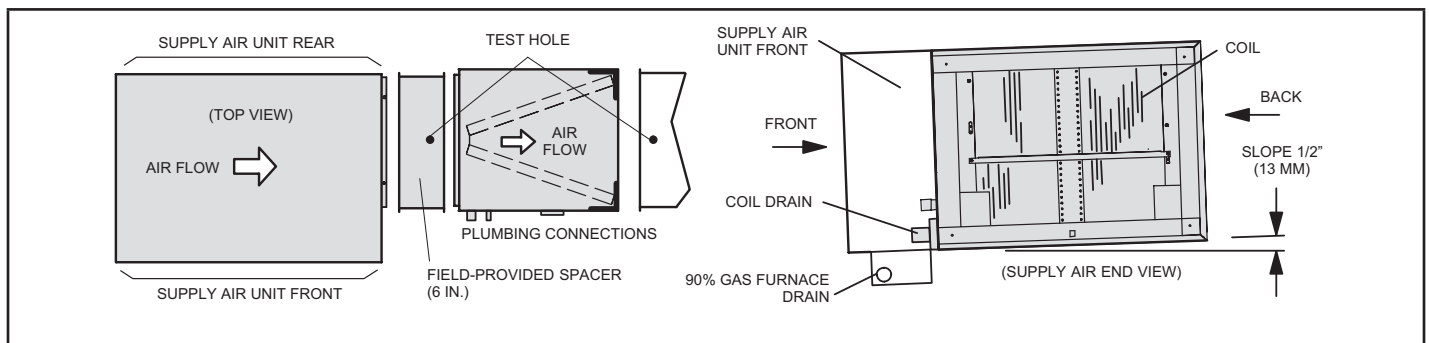

FIGURE 5. Right-Hand Air Discharge with Spacer
- 2 - **Right-Hand Air Discharge with Field-Provided Spacer** - The coil must have a 1/2" slope from the rear of the cabinet to the drain. Position the coil in the left-to-right configuration on the service access side of the furnace. Insert a field-provided spacer between the furnace and the coil. Use field-provided screws to secure the coil casing, spacer and the furnace together. The spacer should be long enough to allow room for proper installation (approximately 6 inches minimum). See figure 5.